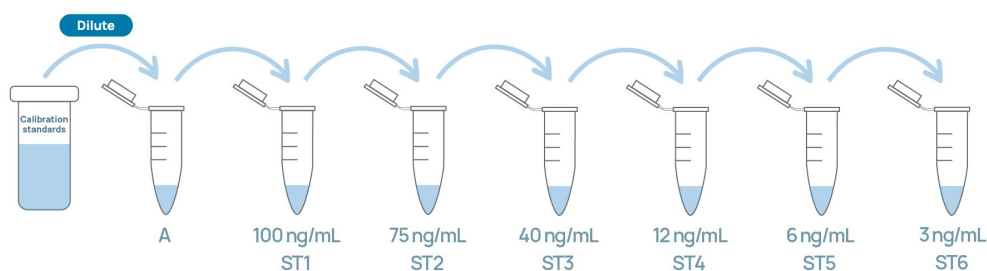

Figure 3. Graphic scheme of CHO-K1 HCP Calibration Standard Solutions
(3) Preparation of Calibration Standard Solutions
- Prepare CHO-K1 HCP Calibration Standard Solutions according to Figure 3 and Table 3.